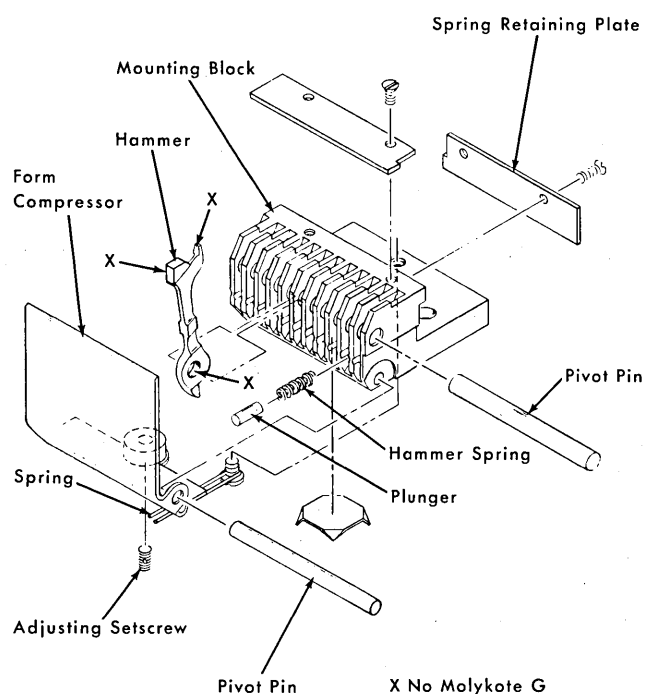

Figure 4-30. Hammer Mounting-Block Assembly
6. Push the compressor pivot pin (see Figure 4-30) out of the hammer mounting block and remove compressor.
5. Remove the hammer spring retaining plate (see Figure 4-30) on the rear of the block. Be careful to retain all springs and plungers.
3. Keep the pivot hole, print face, and impression control surface free of Molykote G (see Figure 4-30).